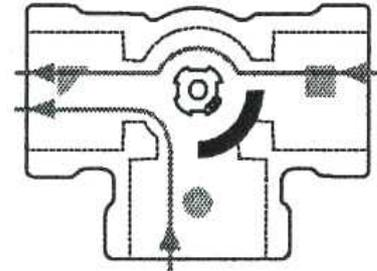
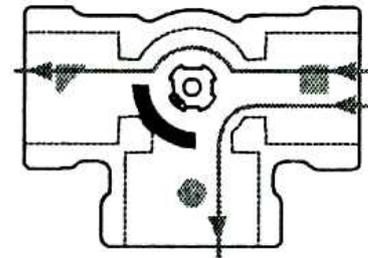

FIG. 1
FIG. 2
1. Look at Fig.1 & 2 and decide which port will always be open, this is your common port, (in Fig.1 this is the triangle in Fig. 2 this is the square). (square, triangle & circle are marked on the valve body) NB Flow direction can be reversed.
2. The stem (black plastic with internal brass thread) has four drive lugs one of which is slightly scalloped, this indicates the centre of the internal shoe. (See Fig.1).
3. Position the centre of the shoe (as indicated by the scalloped drive lug) midway between the two ports which are required to close/control. As shown in Figs. 1 & 2.
1. Decide which is your porting configuration (see above) and set the valve into mid position as shown either Fig.1 or Fig.2.
3. Select the drive coupling (white hexagonal bar), one end has four drive lugs the other end one large drive lug. Fit the four drive lug end onto the black valve stem insuring that the vertical line on the coupling lines up with the scalloped drive lug on the valve stem. (See Fig.1).
1. Decide which is your porting configuration (see previous page) and set the valve into mid position as shown either Fig.1 or Fig.2.
4. Select the drive coupling (white hexagonal bar), one end has four drive lugs the other end one large drive lug. Fit the four drive lug end onto the black valve stem insuring that the vertical line on the coupling lines up with the scalloped drive lug on the valve stem. (See Fig.1 previous page).